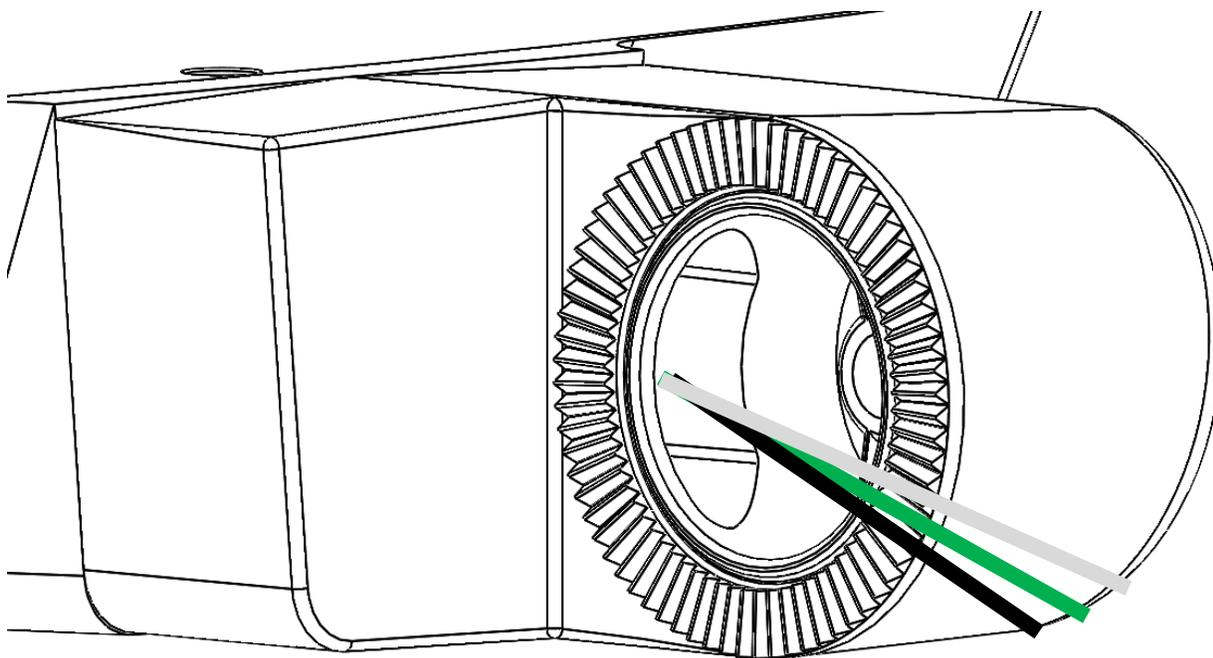

Figure 13 – IS wire routing; Housing portion of the knuckle
Step 4: Route luminaire input wires through the housing portion of the knuckle into the wiring chamber of the mounting portion of the knuckle (see figure 13). NOTE: Wire routing should be done before securing the two portions of the knuckle together for ease of wire routing.